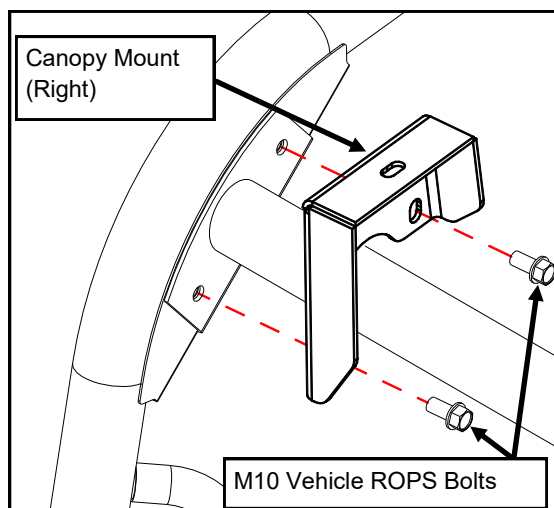

Fig. 2
1. Remove (2) front right ROPS bolts (M10), and save for re-use.
2. Install right canopy mount using ROPS bolts removed in step 1. Leave bolts loose. (see fig. 2)